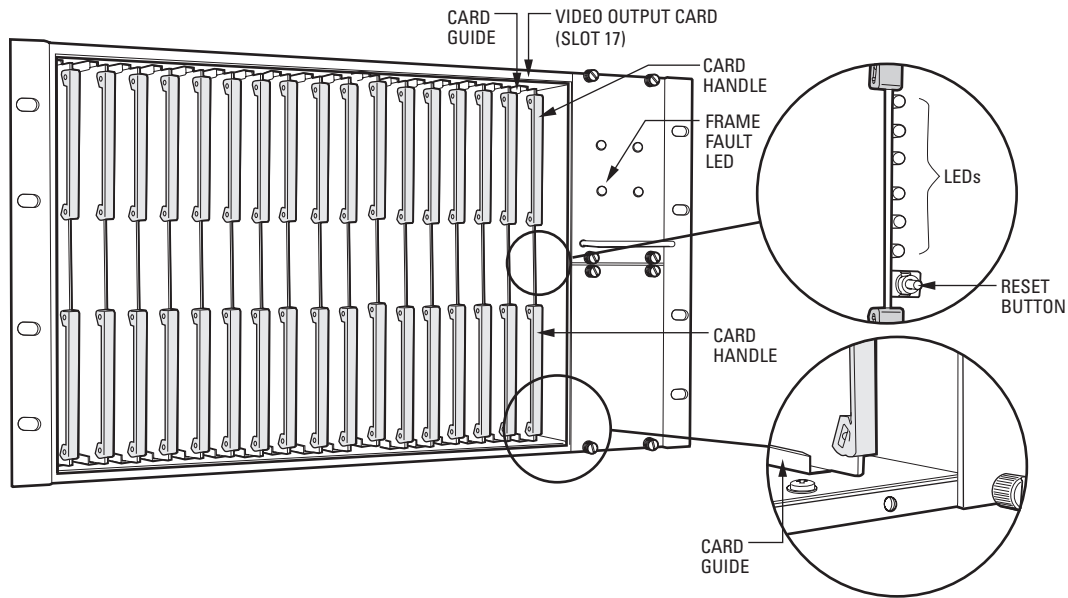

Figure 30. CM9760-VMC Video Output Card Installation (Slot 17)
4. Install the new card into slot 17 of the matrix bay as follows (refer to Figure 30):